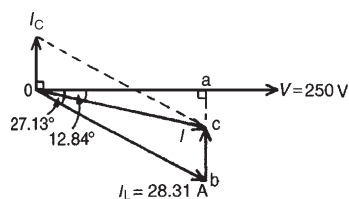

Figure 16.21
- (d) To improve the power factor, a capacitor is connected in parallel with the loads. The capacitor takes a current I_C such that the supply current falls from 28.31 A to I , lagging V by $\cos^{-1}0.975$, i.e. 12.84° . The phasor diagram is shown in Fig. 16.21.